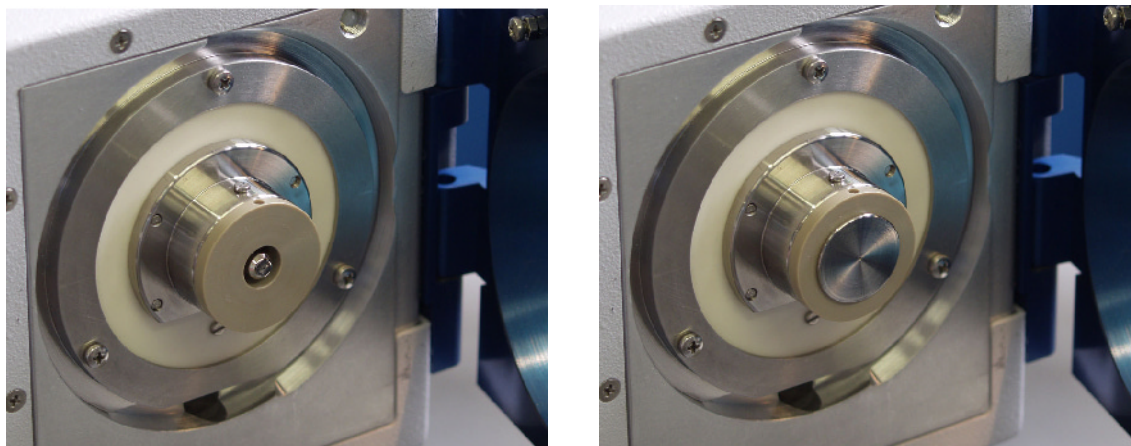

Figure 6-6 Placement of the Gas Diverter (left) and Capillary Cap (right)
8. Insert the gas diverter disk into the endplate (left in Figure 6-6), and place the capillary cap over the capillary entrance (right in Figure 6-6).